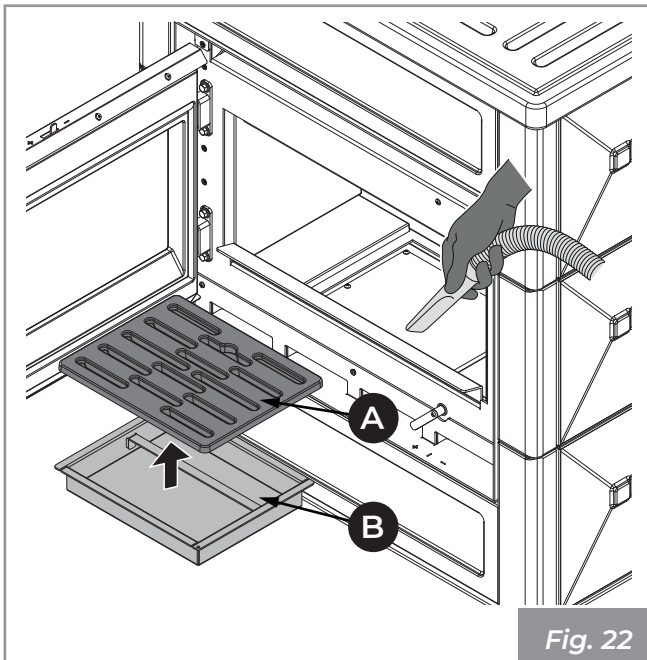

Fig. 22
- 1) Carefully clean the grate (A) (Fig. 22). Remove it and clean the fire box using a hand brush (not supplied) brushing the combustion residues into the ash drawer.
- 2) Extract the ash drawer (B) from the base and vacuum out any ash deposited in the compartments below (Fig. 22).